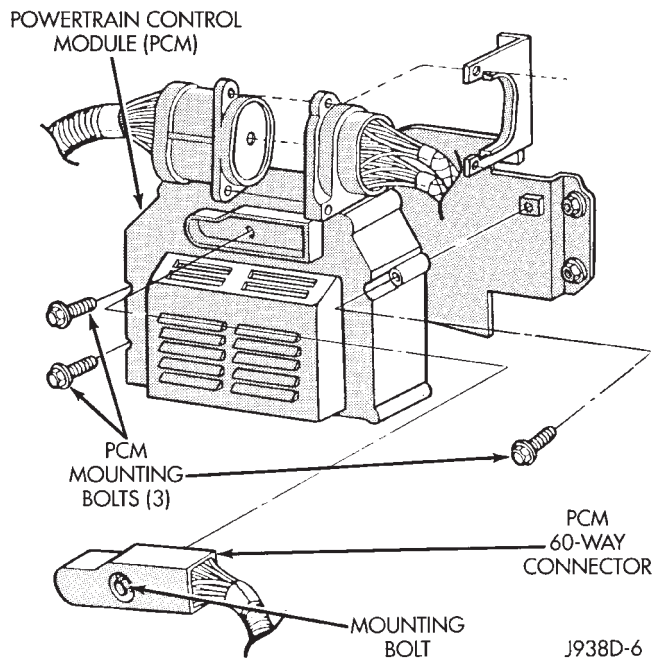

Fig. 13 Powertrain Control Module (PCM) Mounting QUICK-CONNECT FITTINGS
- (3) Loosen the 60-Way connector mounting bolt (Fig. 13).
- (4) Remove the electrical connector by pulling straight back.
- (5) Remove the three PCM mounting bolts (Fig. 13).
- (6) Remove PCM.